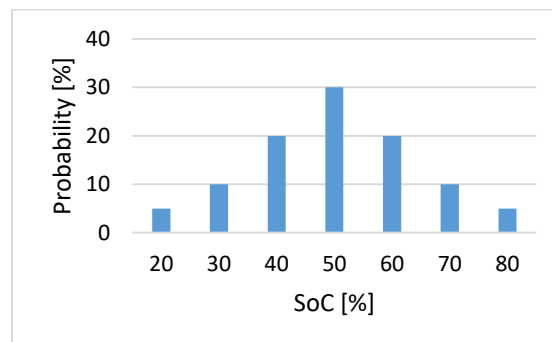

Fig. 1 Distribution of the SoC at the beginning of the charging process.
- Switch the slider to "On". The SoC at the beginning of the charging process is determined according to the distribution of Fig.1 and the final SoC is automatically set to 100%.